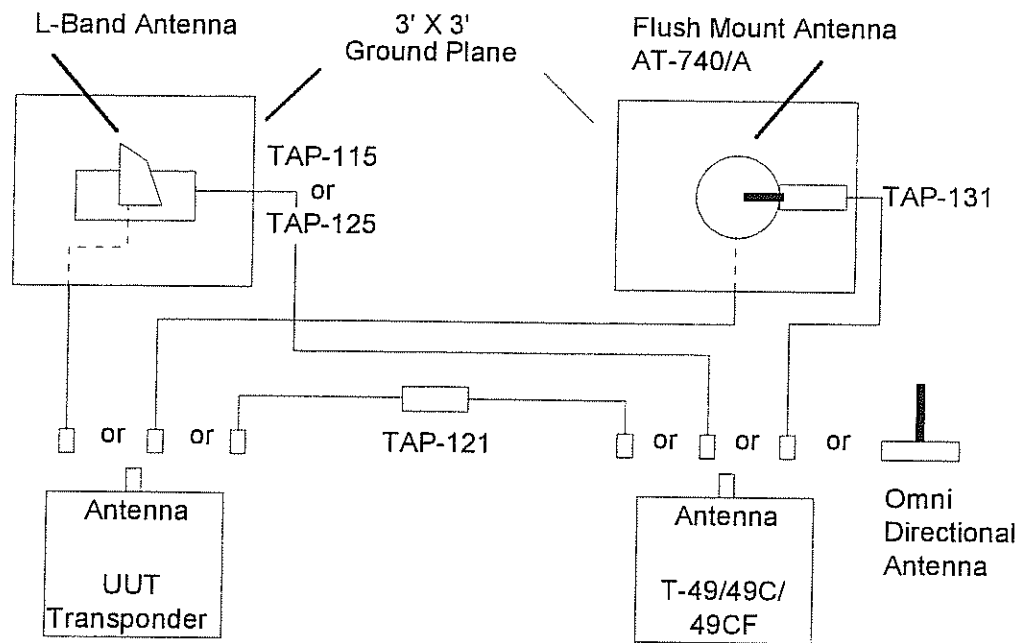

Figure 4-1
- c Make sure the XPDR which is being tested is functional and powered on See Figure 4-1 for transponder system setup.
- b Connect the TAP-115 coupler to a 3' X 3' Blade mounted antenna plate and the UUT. If testing TAP-121, connect it directly to transponder. See Figure 4-1